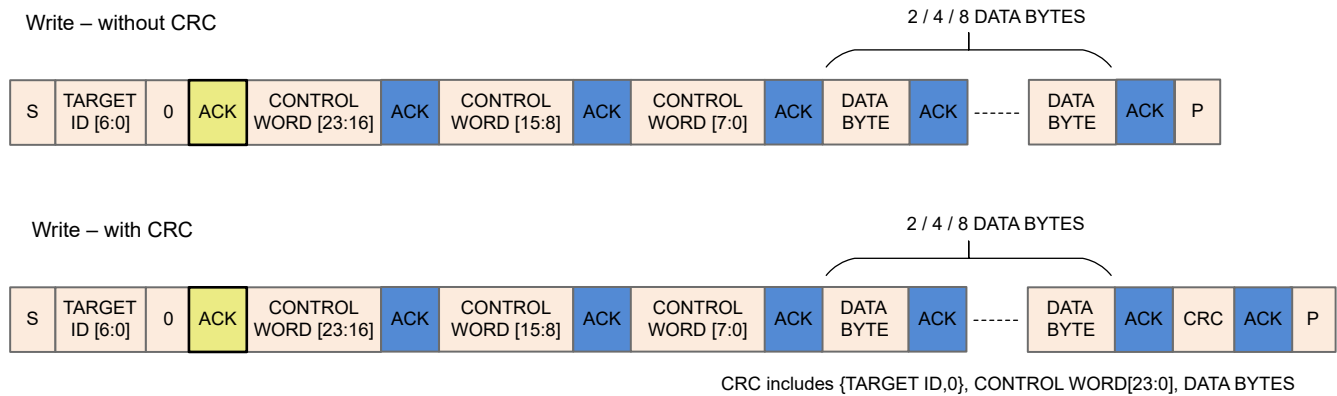
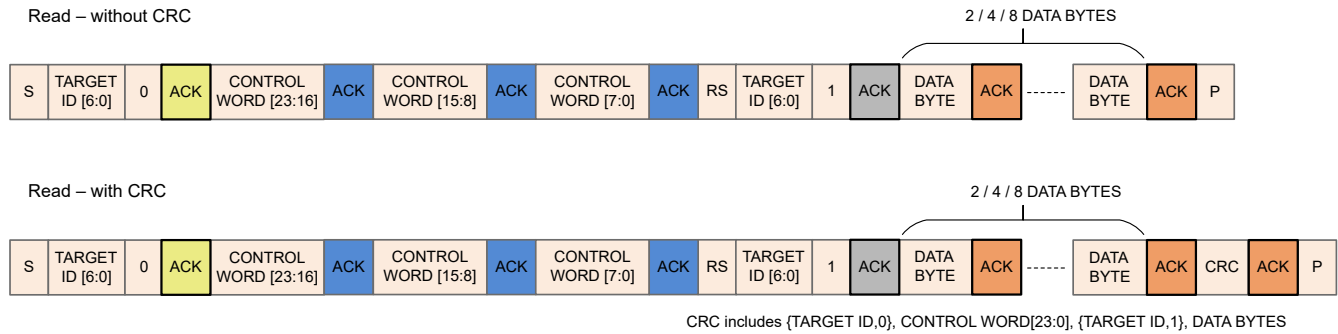

Figure 7-54. I²C Write Transaction Sequence
Figure 7-55. I²C Read Transaction Sequence
MCF8316C-Q1 write transaction over I²C involves the following sequence (see Figure 7-54).
MCF8316C-Q1 read transaction over I²C involves the following sequence (see Figure 7-55).
- a. When target ID is a match, I²C peripheral in MCF8316C-Q1 raises a start interrupt request. Until this start interrupt ID request is processed, clock is stretched. Upon processing this request, clock is released and an ACK (marked in yellow or grey in Figure 7-54 and Figure 7-55) is sent to the controller for continuing with the transaction.
2. **Receive interrupt pending:** When a receive interrupt is waiting to be processed and the receive register is full which occurs when two successive bytes (data or control) have been received by MCF8316C-Q1 (separated by one ACK shown as blue boxes in Figure 7-54 and Figure 7-55) without the receive interrupt generated by the first byte being processed. Upon receive of second byte, clock is stretched until receive interrupt generated by the first byte is processed.